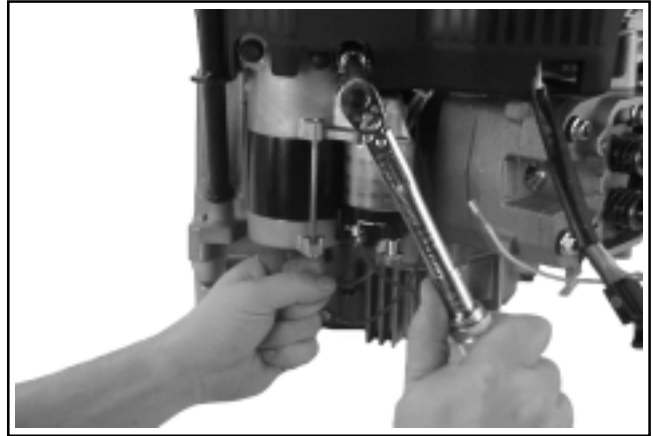

Figure 11-80. Torquing Starter Mounting Bolts.
3. Slide the adjacent radiator support bracket under the heads of the starter bolts and **behind** the lifting bracket. Check that the starter is square to the crankcase, then torque the mounting bolts to **15.3 N·m (135 in. lb.)**. See Figure 11-80.